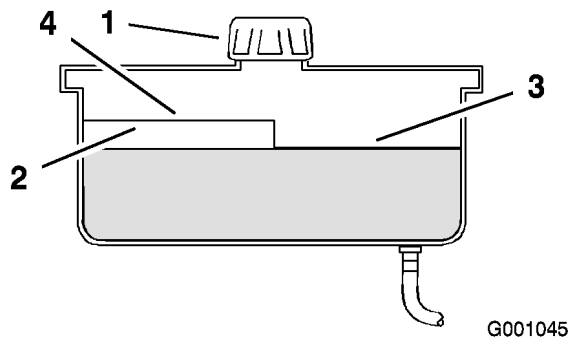

Figure 58
- Clean the area around filler neck of hydraulic tank (Figure 58).
- Remove the cap from the filler neck. Look inside to check if there is fluid in the reservoir (Figure 58).
Note: The fluid level should be to the top of the hot level of the baffle, when the fluid is hot (Figure 58).